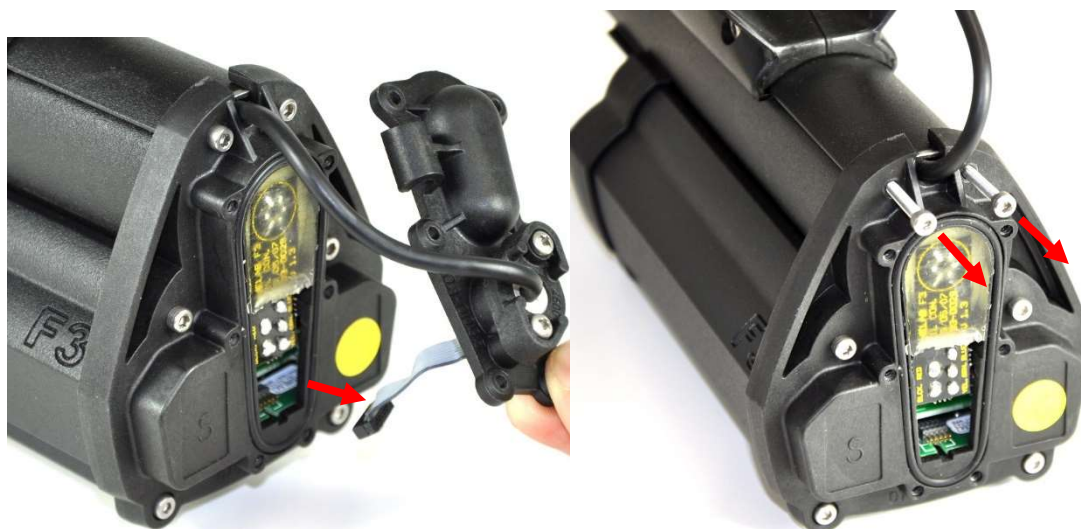

Figure 50: Disconnecting wiring loom.
- Gently unplug the wiring loom plug from the electronics pack printed circuit board, as shown in Figure 50.
- Undo and remove the upper two screws securing the electronics pack to the upper shaft. Shown in Figure 50.